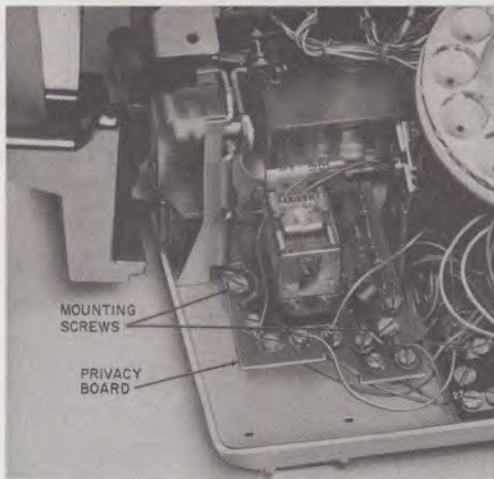

Fig. 20—Privacy Circuit Mounted in Telephone Set
- (1) Mount privacy circuit board on the two standoffs located at the left front of the telephone set base (Fig. 20).
- (2) Fasten privacy circuit board to standoffs using mounting screws furnished with the telephone set.
- (3) Connect leads according to Table E.
- (4) Test privacy circuit by busying out a line using another station set. Go off-hook on line under test. The station should be